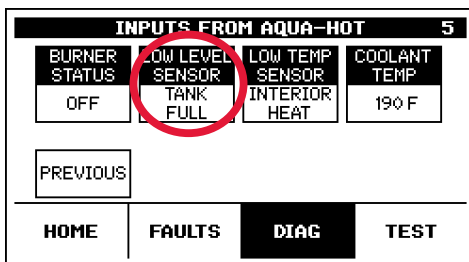

Figure 180
7. Pay attention to the "LOW LEVEL SENSOR" item on this page. See Figure 180.